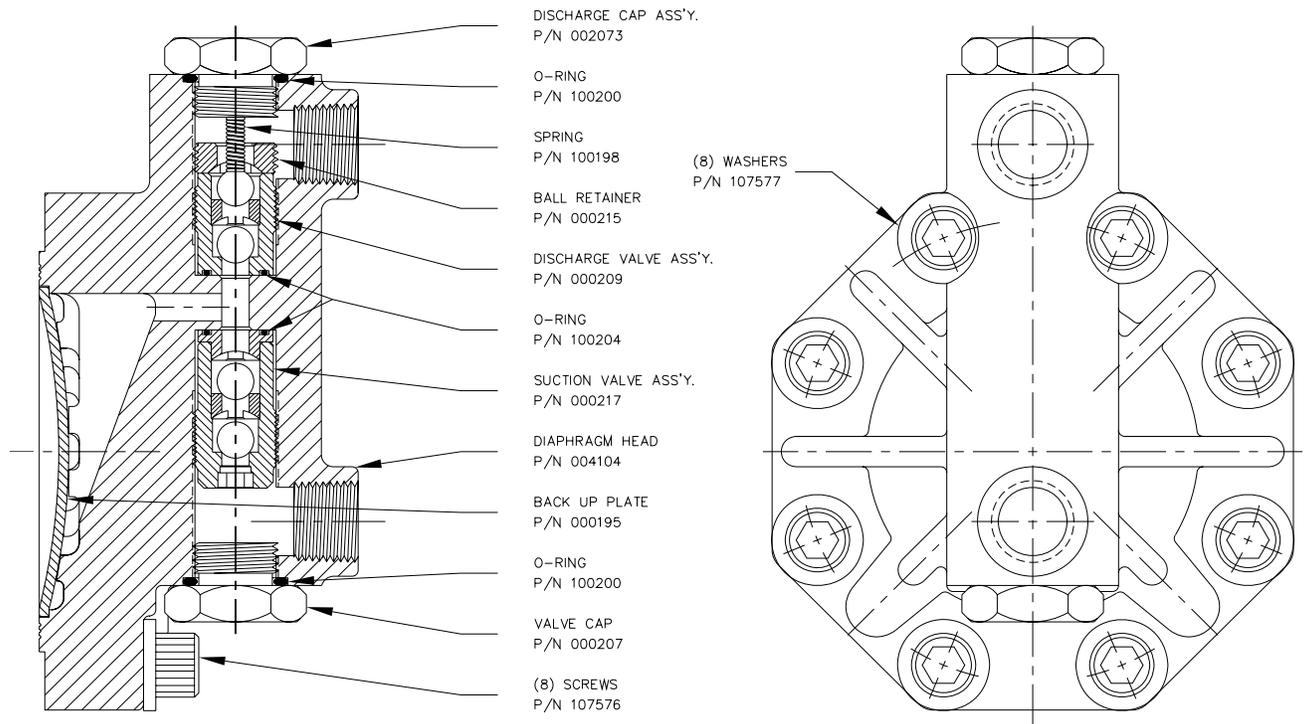

FIGURE 3
- 6.0.1 Remove backpressure spring, if any (anti-siphon spring, Part#100198 on Fig 3) for start up. Reinstall after pump is operational if needed.
- 6.0.4 Make sure that the pumping chamber is flooded by loosening Discharge Cap (Part#002073 on Fig 3) and allowing solution to appear. Then tighten Discharge Cap (Part#002073 on Fig 3). This procedure will also allow air to vent from pumping chamber. THE "dia-PUMP" WILL NOT FUNCTION IF AIR IS TRAPPED IN THE HYDRAULIC FLUID OR LIQUID INSIDE OIL PUMP CHAMBER.
7.0.2 Remove discharge valve cap (# 002073 on Figure 3).
7.0.3 Remove ball retainer (# 000215 on Figure 3), using 5/16” Allen wrench.
7.0.4 Remove discharge valve cartridge (# 000209 on Figure 3). Using special wrench provided. Be certain that valve “O” ring (# 100204 on Figure 3) is removed with valve cartridge.
7.0.5 Remove suction valve cap ((# 000207 on Figure 3).
7.0.6 Remove suction valve cartridge (# 000217 on Figure 3), using 5/16” Allen wrench. Be certain that valve “O” ring (# 100204 on Figure 3) is removed with valve cartridge.